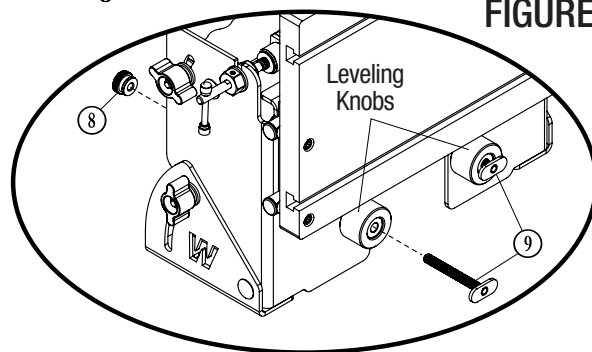

FIGURE F-1
- Pre-install ⑪ (4) Button Head Cap Screws, ⑬ (4) 1/4 Washers, and ⑫ (4) Weld Nuts through the holes in the feet of the Sliding Table Base. Thread the Weld Nuts just enough that they stay in place. **FIGURE F-1.**